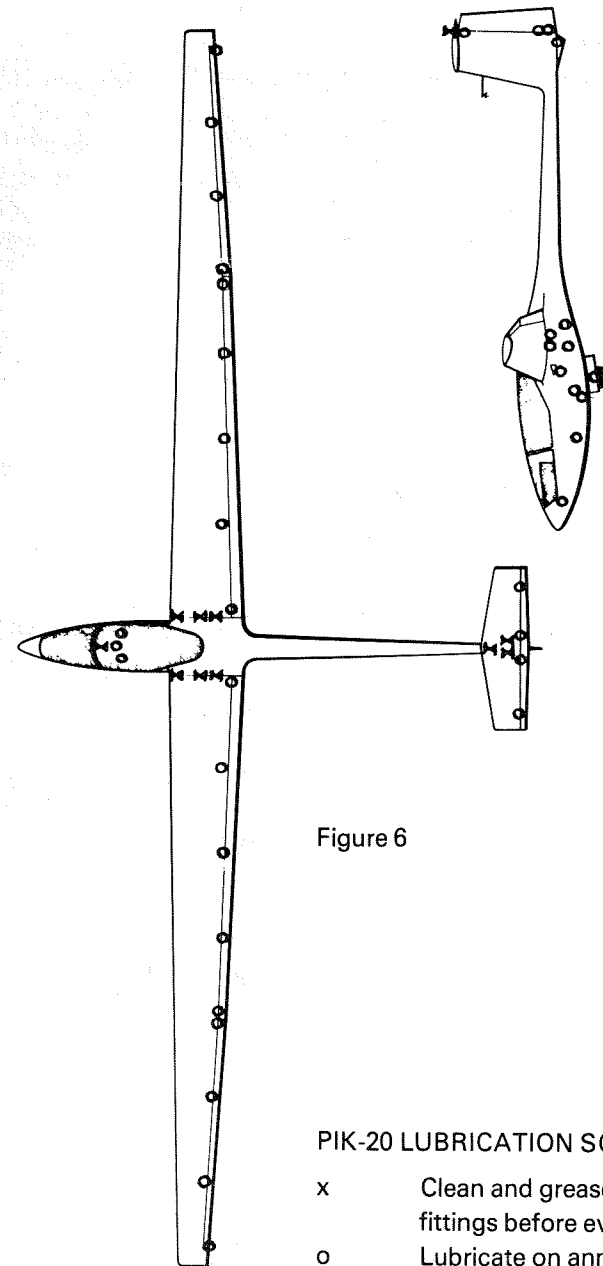

Figure 6
Clean and grease points marked "X" in Figure 6.
- Inspect, clean and lubricate with oil the bearings and hinges marked "O" in Figure 6.